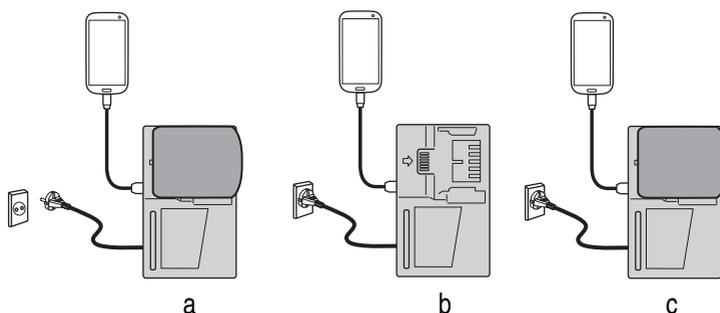

Fig. 6
- Charging a USB device by battery (**Fig. 6-a**)
- Charging a USB device from a electrical outlet (**Fig. 6-b**).
- Charging a USB device and battery from a electrical outlet. (**Fig. 6-c**)